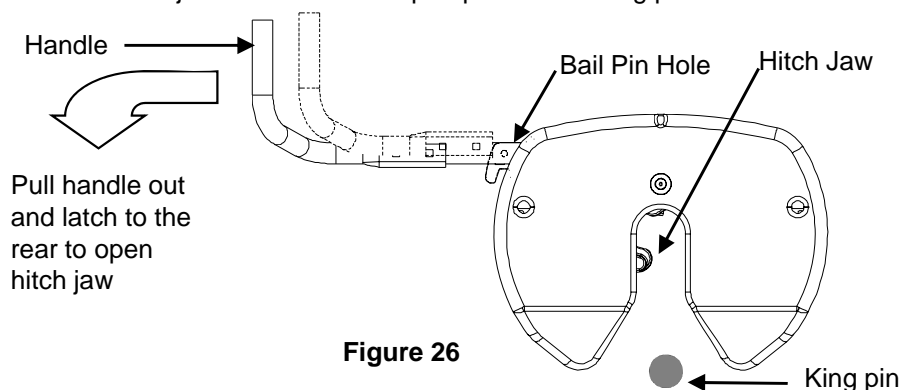

Figure 26
3. Remove bail pin from bail pin hole (see Figure 26). Then pull handle out and rearward to hold open.
4. With handle in the open position (See Figure 26), back truck slowly into trailer. As king pin completely enters head, jaw will spring closed around king pin and handle will return to the closed position. If the handle does not return to the closed position, then try to push the handle back to the closed position. If handle does not return to the closed position then move the truck slightly forward or rearward until the handle returns to the closed position. (See Figure 27)
7. Pull hitch handle out completely until it latches in open position so that king pin is no longer securely grasped by hitch jaws (see Figure 26). Trailer is now free from hitch and truck. If handle does not pull out, there is probably pressure against the jaw. To relieve this pressure, back the truck slightly. Reset truck emergency brake. Then pull hitch handle out completely until it latches in open position.